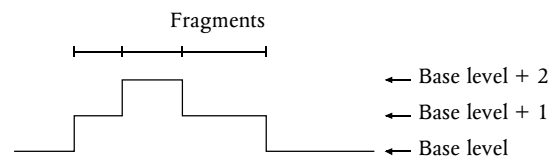

Figure 100 Multiple openings set to "Fragments"
- 1 Fragments. Multiple openings are treated the same as other events, with the effect that the openings are broken into fragments. That is, each interval from one event to the next is treated as a level. For example, if the base level is 0, and a sequence of events makes the transitions 0, 1, 2, 1, 2, 1, 0, six levels will result, one for each of the six intervals: 0 to 1, 1 to 2, 2 to 1, 1 to 2, 2 to 1, and 1 to 0. *☞ Figure 100.*